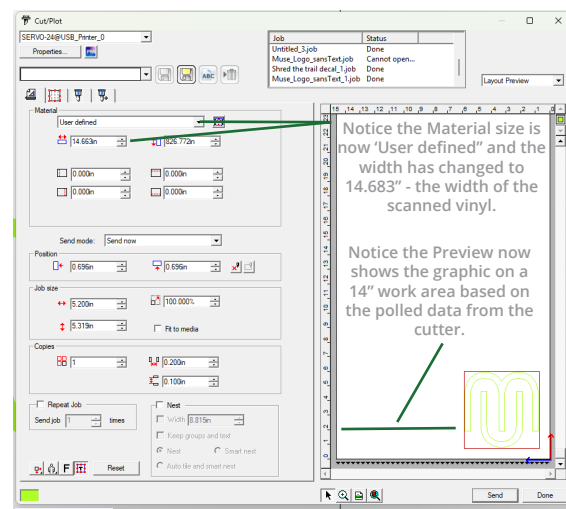

Fig. 2.8.4
- The Servo cutting head will scan the loaded vinyl and update the Material Width. The Cut-Plot setting will change to User Defined and the newly scanned media width will be displayed (Fig 2.8.4).